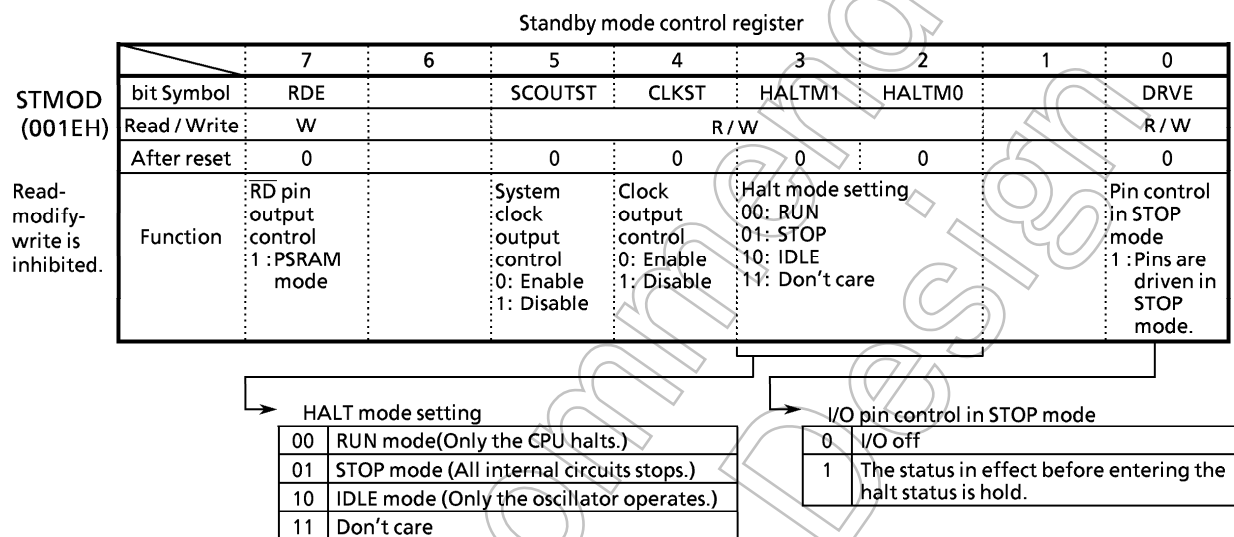

Figure 3.4 (1) Standby mode control register
(1) HALT mode
In TMP95C001, when the “HALT” instruction is executed, the operating mode changes RUN, IDLE, or STOP mode depending on the contents of the standby mode control registers (STMOD) <HALTM1,0>. Figure 3.4 (1) shows the standby mode control register.